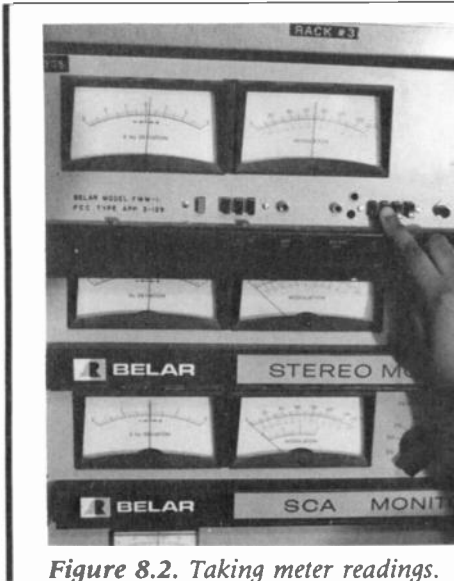

Figure 8.2. Taking meter readings.
- ▣ Taking meter readings (Fig. 8.2)